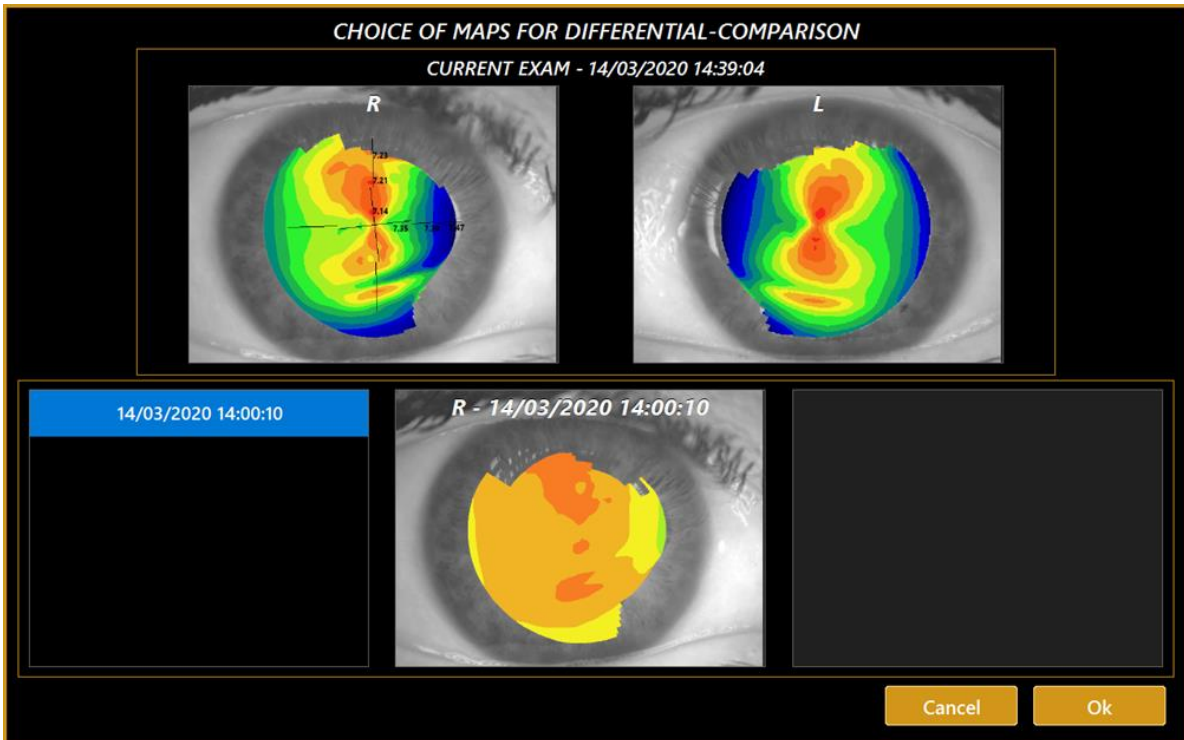

Fig. 45
4. Differential: the user can select the image of another exam of the same patient to compare it with the current exam (Fig.45).